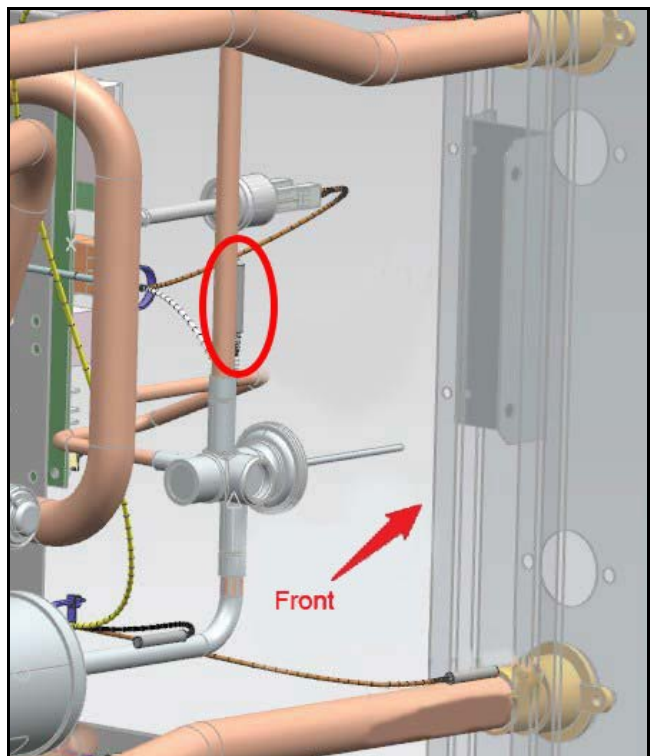

Fig. 63 FZE Sensor Location
If the number of freeze faults detected exceeds two to four times (configurable via the Bosch EasyStart app) within one hour, the controller will go into hard lockout. The status LED indicator will flash six times, alarm relay will pulse six times as well, if configured for pulse. To clear the hard lockout condition, power must be reset at the (Y) terminal (factory settings) or (R) terminal (configurable via the Bosch EasyStart app). Location of the FZE is shown on Fig. 63.